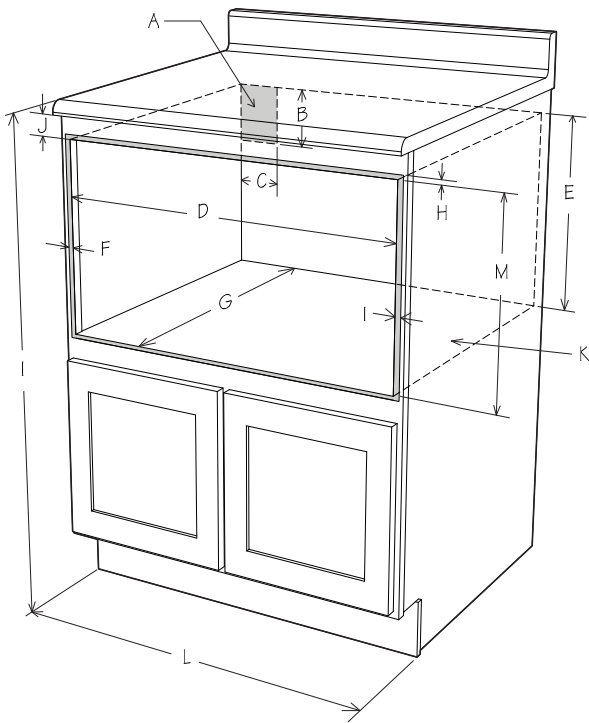
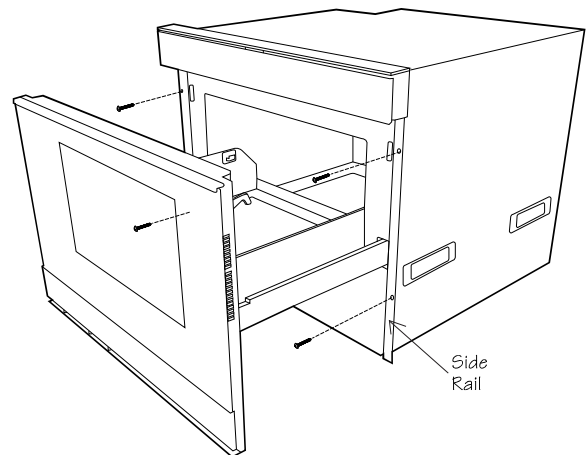

Figure 1
Figure 9
For **SAFETY CONSIDERATIONS** do not install drawer in any combustible cabinetry, which is not in accord with the stated clearances and dimensions on pages 2 - 4. See Figures 1 - 7.
- Dimensions that are shown in Figure 1 must be used. Given dimensions provide minimum clearance. Locate electrical outlet in the shaded area in the upper left-hand corner of the cutout. See Figure 9.
Figures 1 and 2 contain many Convection Microwave Drawer measurements for reference when planning the drawer's location.
3. Slide the Convection Microwave Drawer all the way until the mounting flange is flush with the face of the cabinet. See Figure 9.
4. Open the drawer. Using the 4 holes on the drawer as a template, pre-drill the cabinet using a 1/16" bit. See Figure 9.